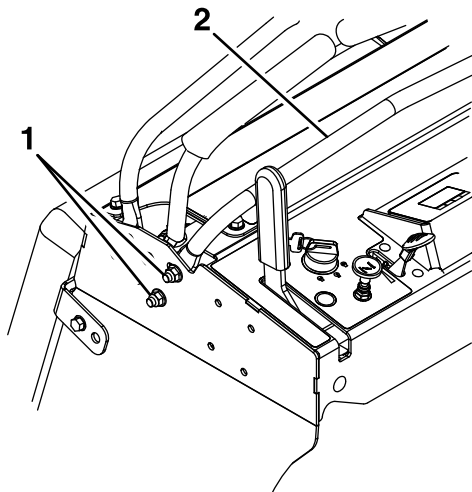

Figure 12
2. Loosen the bolts on both sides of the control tower by loosening the 2 nuts on each side (four total) of the console (see Figure 12).